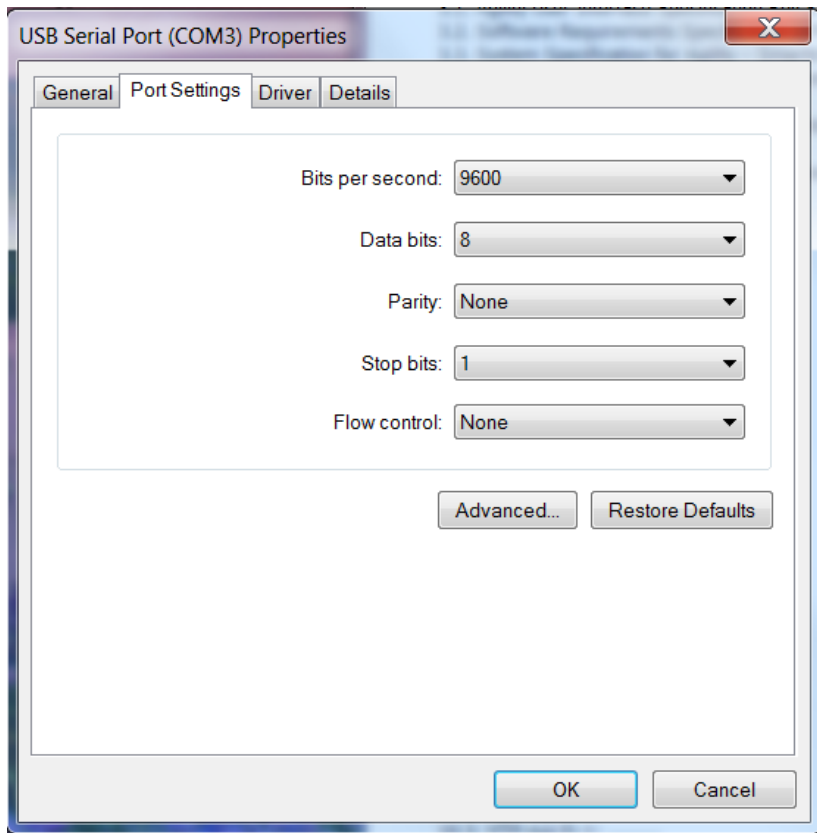

Figure 2-11: COM Port Properties
2. Select USB-to-Serial Comm Port (Figure 2-11).